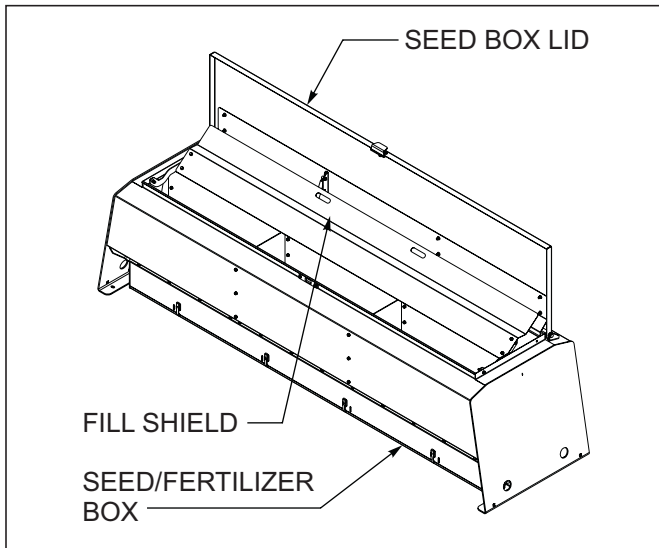

Figure 4-21: Fill Shield in Raised Position
- When using both seed and dry fertilizer, open fill shield up shielding the seed box and fill with dry fertilizer **See Figure 4-21.**